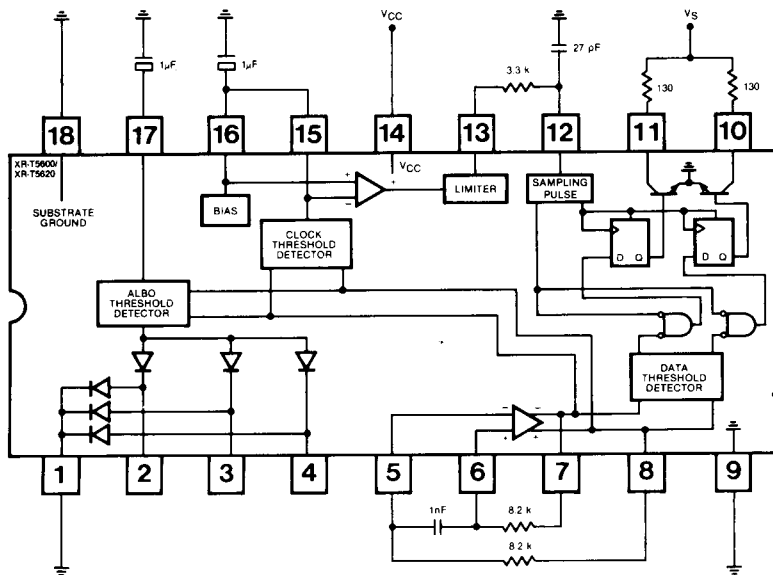

Figure 2. D.C. Parameter Test Circuit
General (Ref. Figure 2)
Amplifier (Ref. Figure 2, Only Pins 1, 9, 10 . . . 18 connected)
Clock Amplifier (Ref. Figure 2, Disconnect Pin 15 from Pin 16)
ALBO (Ref. Figure 2)
2) At 1MHz, use Figure 2